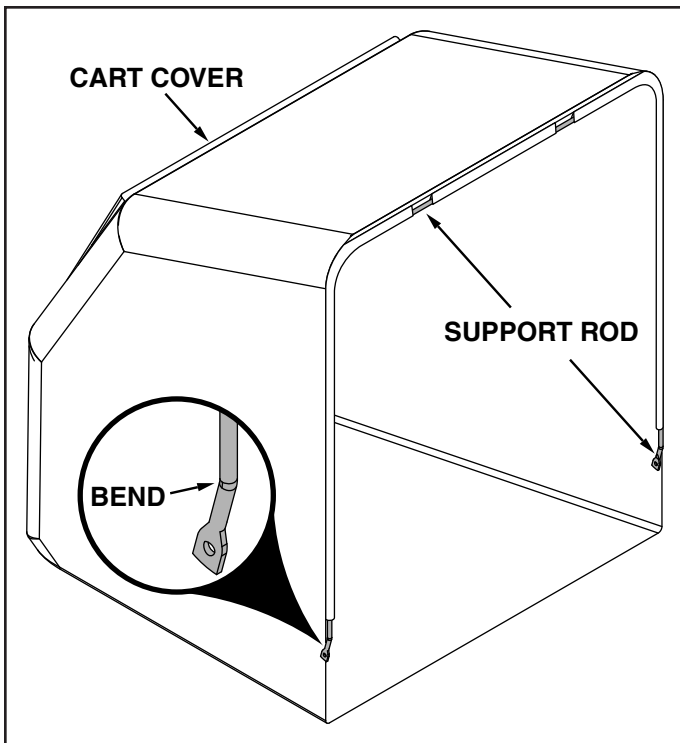

FIGURE 21
- Slide the last lower support rod through outer edge of the cart cover. The **bend** in the rod must face in the direction shown in figure 21.